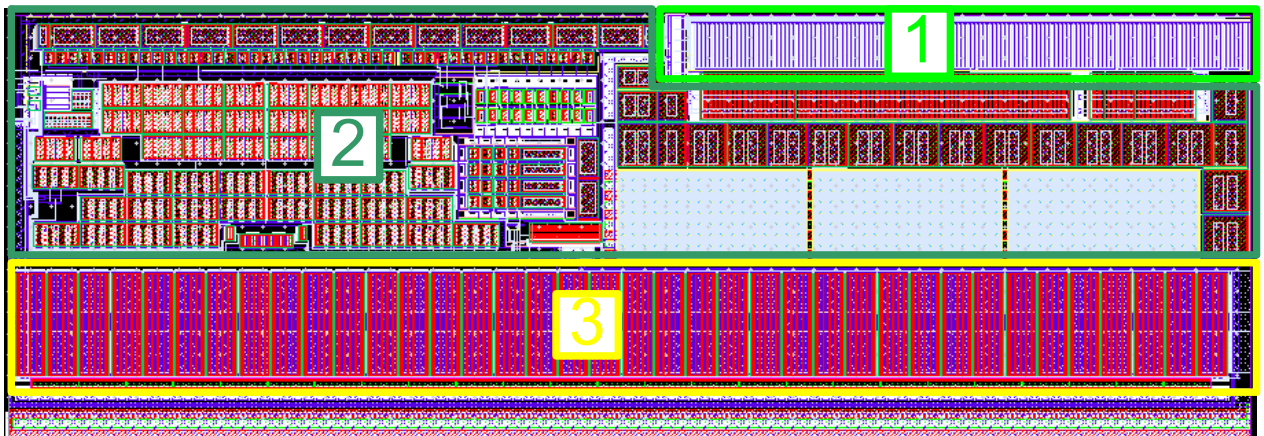

Figure 4: Flash LDO voltage regulator layout
- Subsection 7.2 “Physical dimensions”. Figure 4 updated